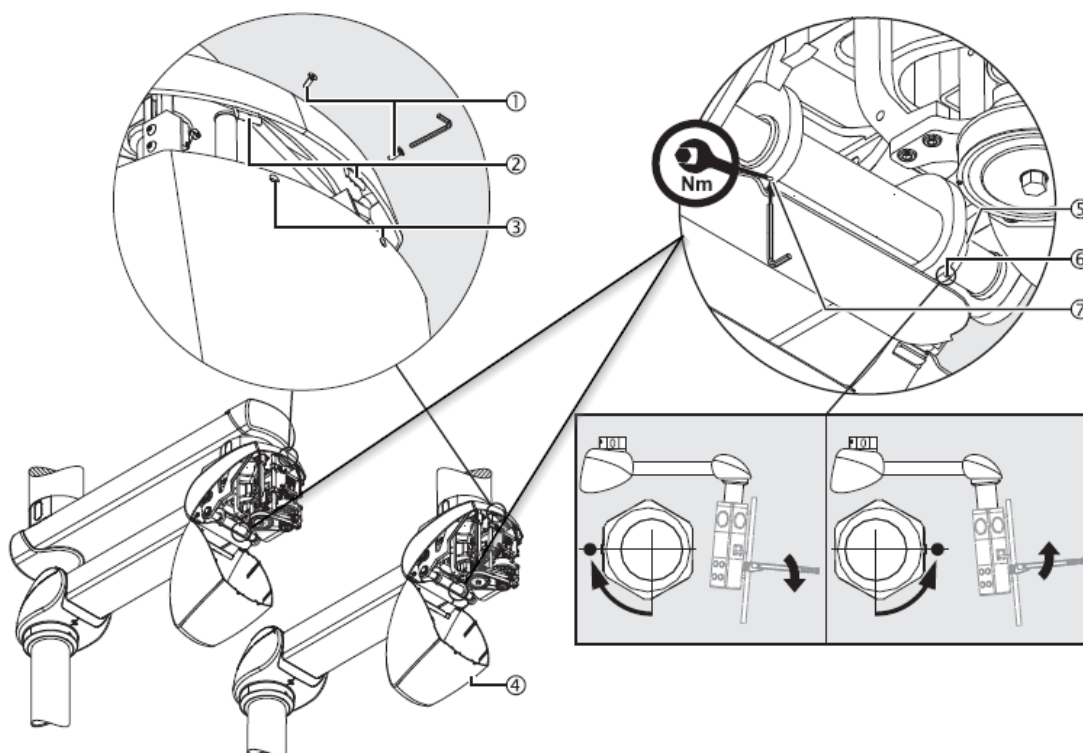

Fig.72 Adjusting the load capacity of the motor arm and closing the rear bottom cover
- Loosen the M4 set screw ⑦ - DIN 914 using the Allen key.
- Place the spanner on the hexagonal bolt ⑤.
- The indicator screw ⑥ points downwards (do not loosen this screw).
- To lower the tray in the example shown in Fig. 72, turn the hexagonal bolt ⑤ so that the indicator screw ⑥ points forwards (towards you). See Fig. 72 Detail view, bottom right.
- To lift the tray in the example shown in Fig. 72, turn the hexagonal bolt ⑤ so that the indicator screw ⑥ points backwards (away from you). See Fig. 72 Detail view, bottom right.
- Tighten the M4 grub screw ⑦ - DIN 914.